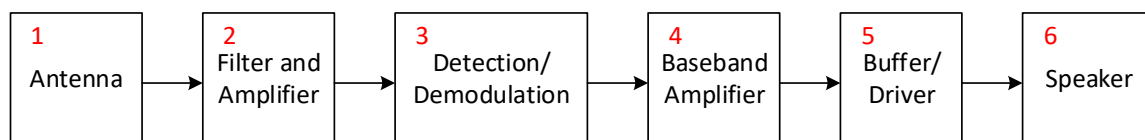
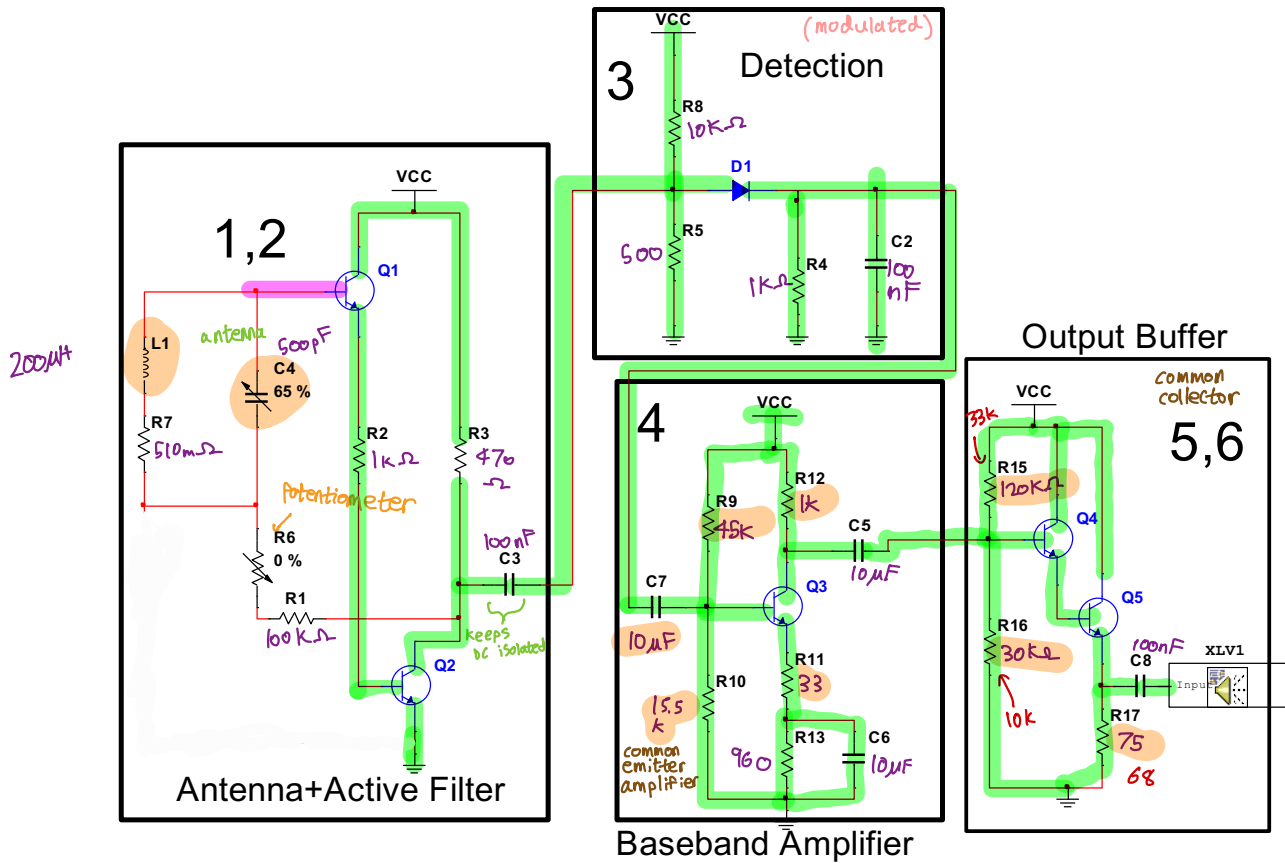

Figure 2: AM receiver system.
Figure 4: AM receiver circuit.
A block diagram of an AM receiver system is shown in Figure 2.
The antenna in Figure 2 mainly acts as a transducer to convert the radio signal to an electrical one. However, when receiving the signal by the antenna, it is essential to filter out the unnecessary out-of-band signals. A band pass filter is required to select the specific band of interest. For example, if we want to receive the AM 660 kHz channel, the antenna and the filter should be tuned at this 660 kHz. To boost the (3)
An example of AM receiver circuit is shown in Figure 4. Different blocks of the AM receiver system shown in Figure 2 are implemented in the AM receiver circuit shown in Figure 4 and the blocks are marked from 1-6.